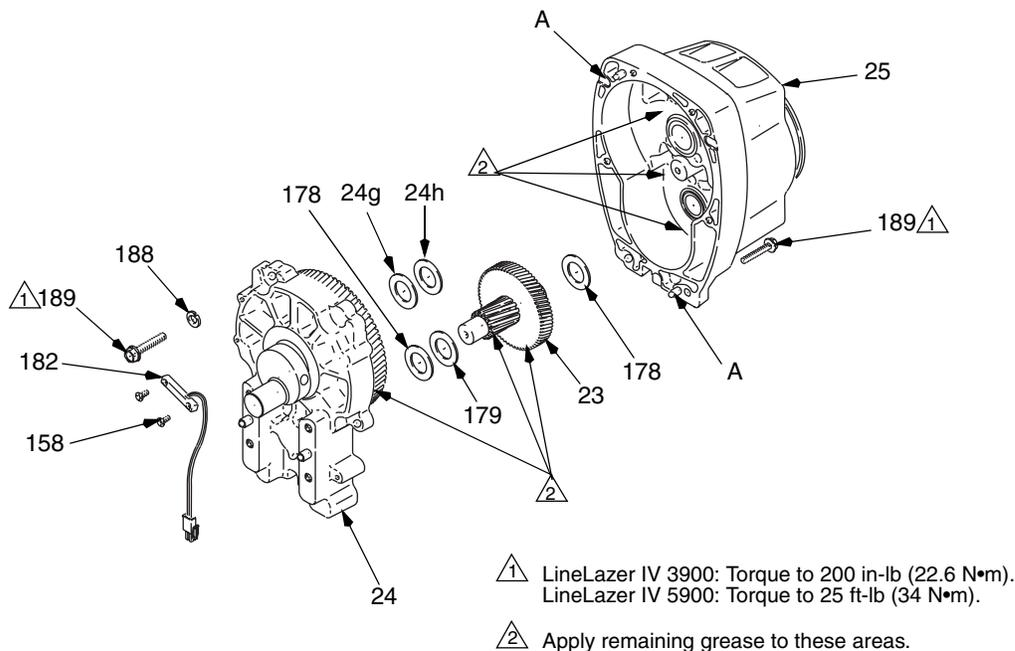

FIG. 3
2. FIG. 3. Remove bearing housing. Do **Bearing Housing and Connecting Rod** procedure on page 11.
3. Remove two screws (158) and reed switch (182).
4. Remove six screws (189) from pinion housing (25).
5. Lightly tap around drive housing (24) to loosen drive housing. Pull drive housing straight off pinion housing. Be prepared to support gear cluster (23), which may also come out.
1. Liberally apply bearing grease (supplied with replacement gear cluster) to gear cluster (23) and to areas called out by note 2.
2. Place bronze colored washer (24g) on shaft protruding from large shaft of drive housing (24). Place silver colored washer (24h) on pinion housing. Clean mating surfaces of pinion and drive housings. Align gears and push new drive housing straight onto pinion housing and locating pins (A).
3. Install six screws (189). Torque evenly to note 1 value in FIG. 3.
4. Install reed switch (182) with two screws (158).